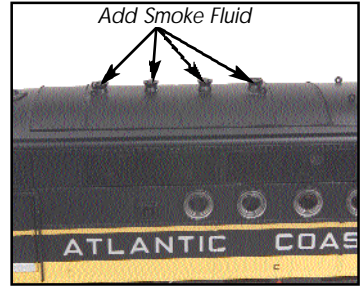

Figure 5 - Add Smoke Fluid
(See Fig. 5 on page 11)
■ When preparing to run this engine, add 15-20 drops of smoke fluid through the smokestack. (see figure 5) We recommend M.T.H. ProtoSmoke, Seuth, LGB, or LVTS fluids (a small pipette of ProtoSmoke fluid is included). Do not over fill the unit or the fluid may leak out and coat the interior engine components.